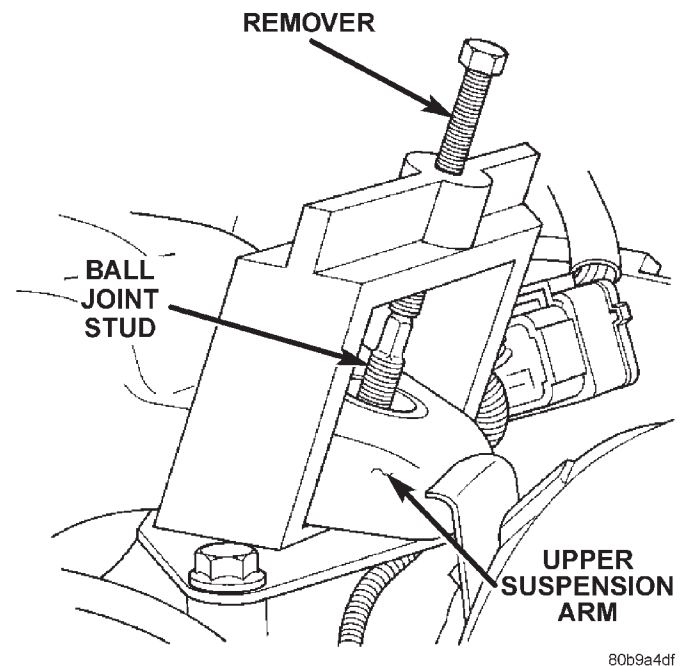

Fig. 9 Separate Ball Joint
- (5) Separate ball joint from the arm with Remover 8278 (Fig. 9).